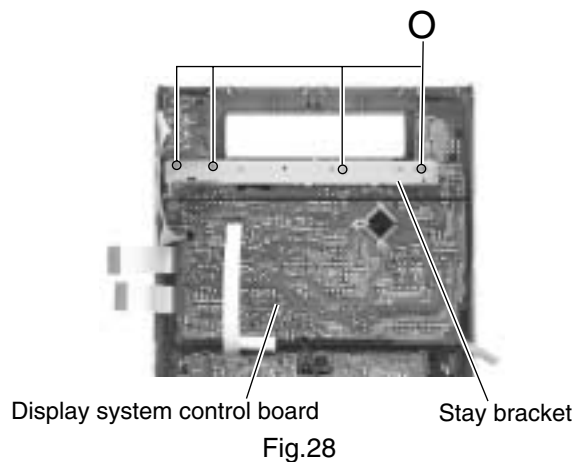

Fig.28
■ Removing the display system control board (See Fig.28 to 30)